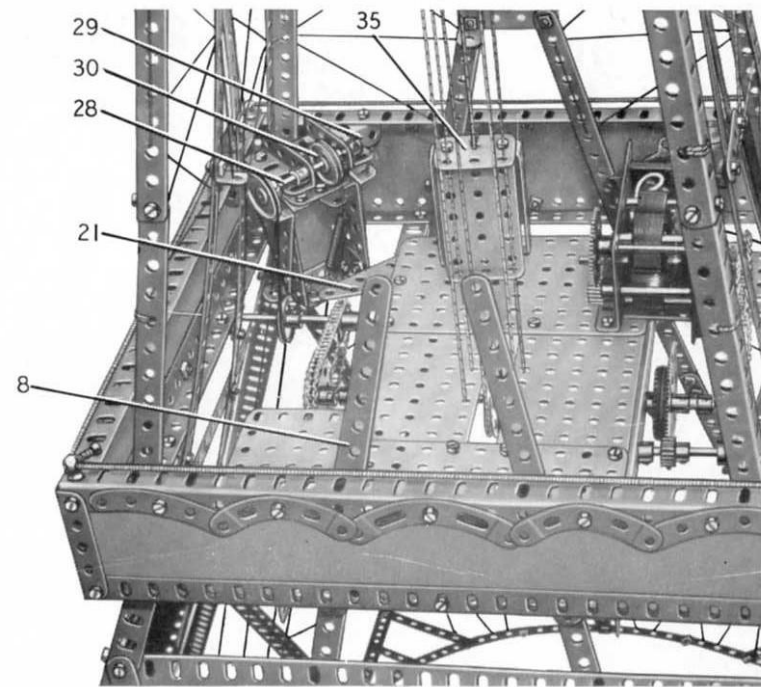

FIG. 7 Another view of the centre landing platform
The lift working to the centre platform is made by bolting 1½" Angle Girders to each end of a 2½" × 1½" Flexible Plate. A 2½" × ½" Double Angle Strip (31) (Fig. 2) on each side is fixed between the Angle Girders, and a further 2½" × ½" Double Angle Strip (32) is arranged on each side. The Double Angle Strips (31) and (32) are bolted together at the top and are connected by a Fishplate at their lower ends. The guides for this lift are provided by a length of Cord tied to one of the 2" Angle Girders bolted to girder (29) (Fig. 7). The Cord is passed through the lugs of one of the Double Angle Strips (32), through a 2½" × ½" Double Angle Strip (33) (Fig. 2) bolted to the Hub Disc (6), and through the lugs of the other Double Angle Strip (32). The Cord is pulled tight and is tied to the second 2" Angle Girder. The lift-operating Cord is tied to a Fishplate bolted to the top 1½" Angle Girder of the lift and to a Tension Spring placed between the two Angle Girders; it is then taken over Pulley (30) (Fig. 7) and round two 1" Rods held by Spring Clips in Double Brackets (34) (Fig. 2). The Cord is then passed through the lower 1½" Angle Girder of the lift and is tied to the bottom loop of the Tension Spring so that the Spring is stretched slightly.